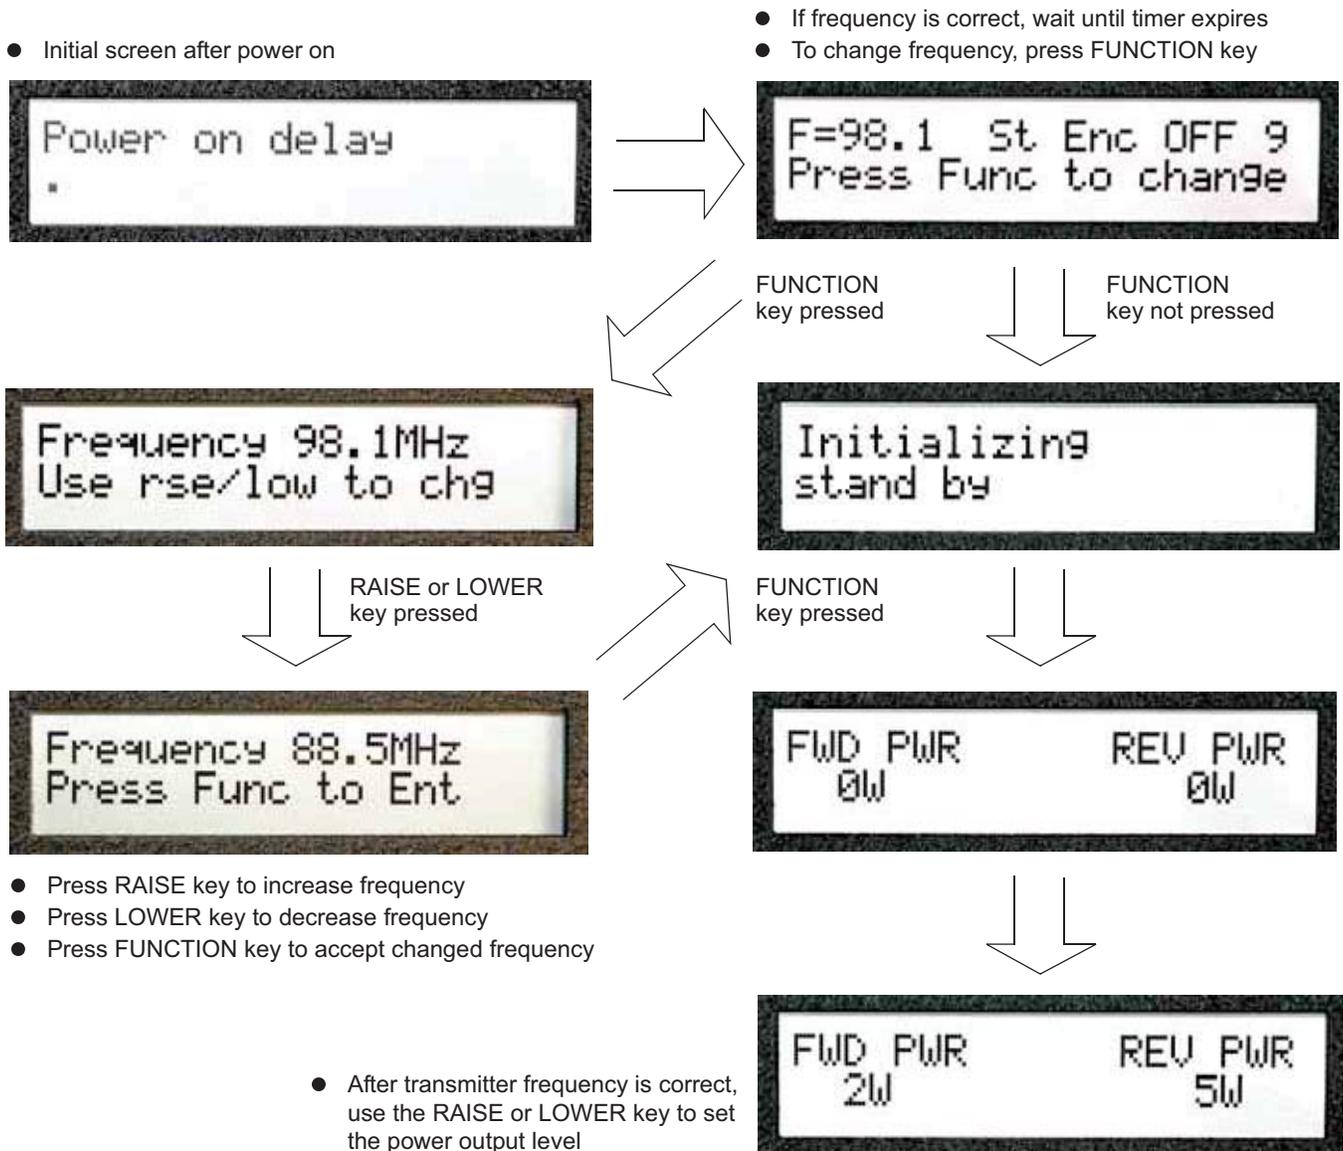

Figure 3-4. After the OPERATE Key is Pressed, the Startup Sequence Begins
2. After the OPERATE key is enabled, the LED display will show the initialization sequence and display the screens—in order—shown in Figure 3-4